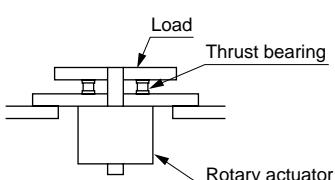
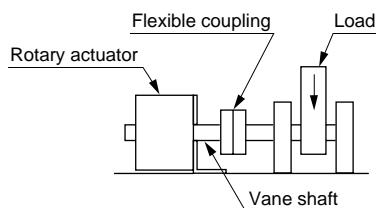

Fig.1
Fig.2 Radial load
- Do not apply load (thrust load) axially to the vane shaft or a malfunction may occur. If this is unavoidable, use a structure with a thrust bearing as shown in Fig. 1. If such a load is unavoidable, use a structure with thrust bearing as shown in Fig. 2.
If such a load is unavoidable, use a structure conveying only rotation as shown in Fig. 2.